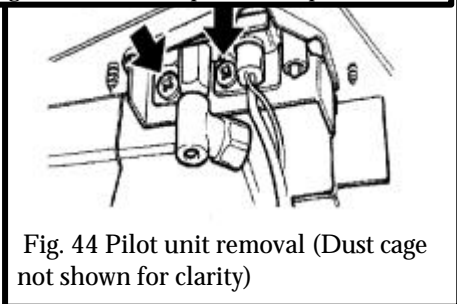

Fig. 44 Pilot unit removal (Dust cage not shown for clarity)
13.8.5 Remove the first screw securing the dust cage to the pilot unit & burner. Carefully remove the dust cage and place aside. See figure 44.
13.8.6 Remove the second screw securing the pilot unit to the burner. Remove the pilot unit and place it aside. See figure 44.